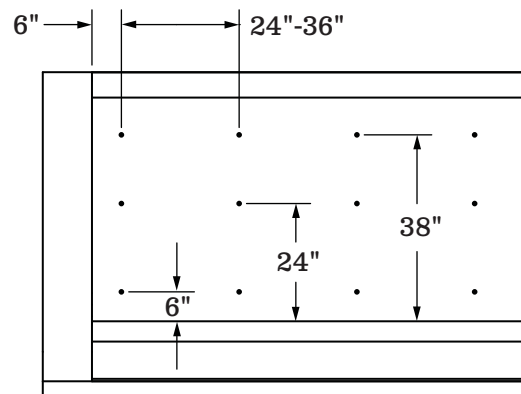

Figure 26
- 2) See **Figure 26, 27, & 28**. Side wall liner should cover the upper section of the leading edge protector holding the main liner. If the trailer has single wall make sure screws will be going into posts or voids so they don't go on the outside of the trailer. Screws should be 6" from front or rear of liner and 24" on center. If posts are further apart the center to center distance can be 36" maximum.